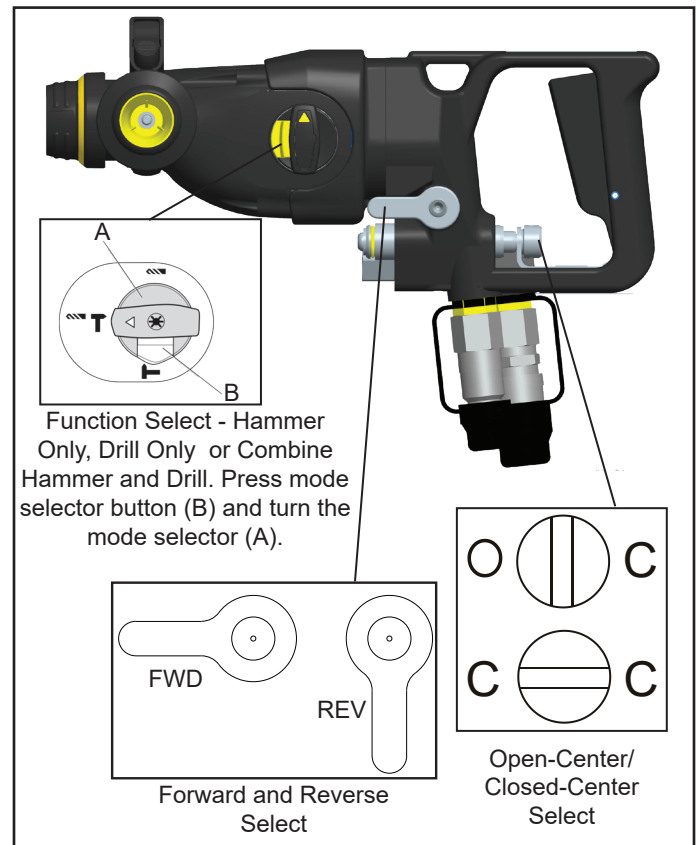

Figure 2: Operator Controls
Forward/Reverse rotation is selected by the lever on the left-hand side of the tool, as shown in Figure 2.
To select a drill mode, press mode selector button (B) (figure 2) and turn the mode selector (A) so the yellow arrow points to the corresponding symbol.